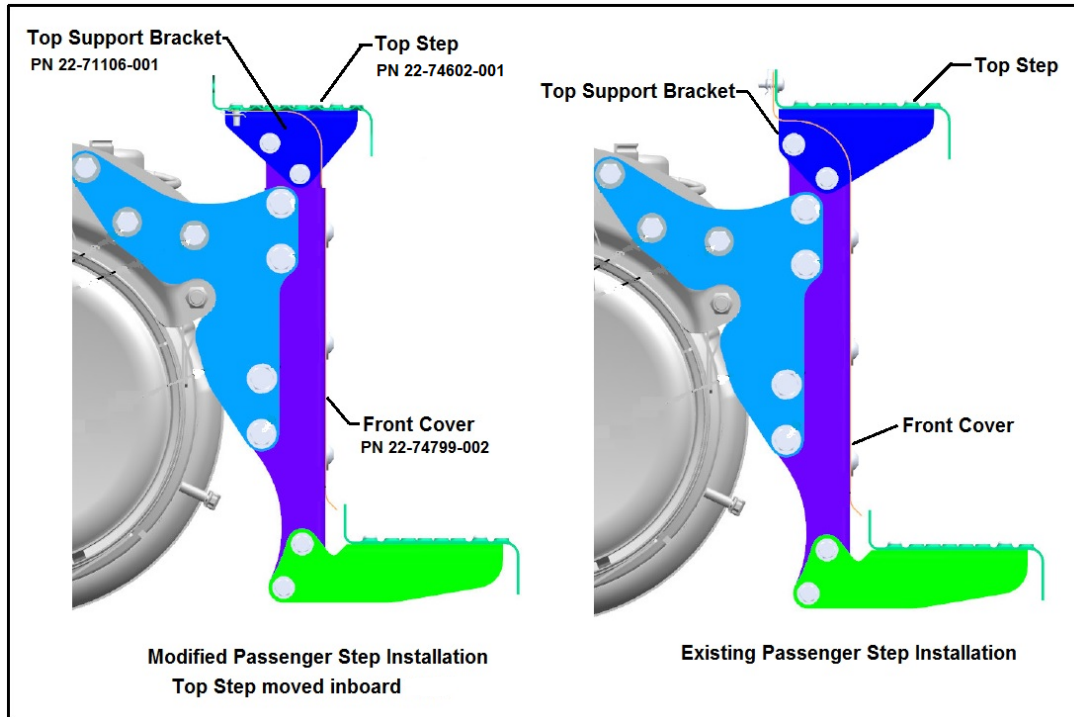

Fig. 1
2. Remove the existing passenger side top step. Save the fasteners for reuse. Fig. 1.
5. Install the replacement top support brackets P/N 22-71106-001. Fig.1.